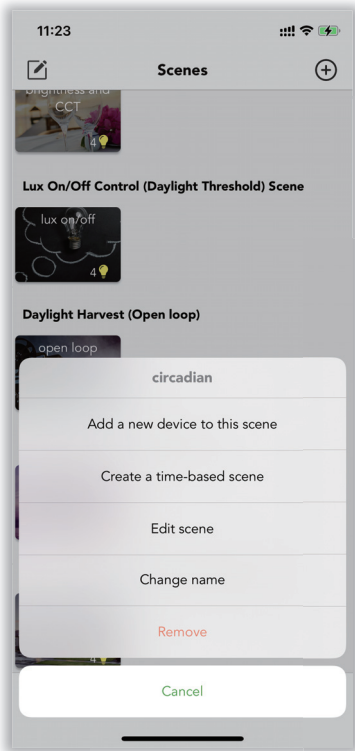
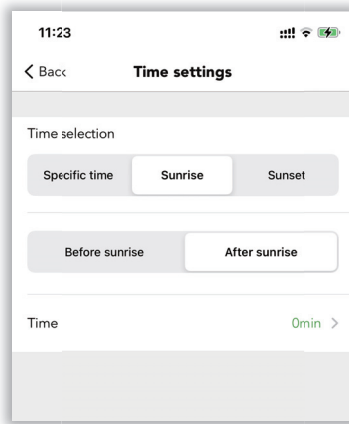
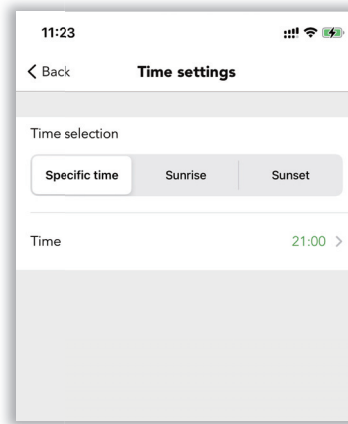

Figure 6.36 Create time-based scene
Figure 6.37 First scene
Figure 6.38 Second scene
Step 4. Long press on the “circadian” scene to access the time-based scene tab (see figure 6.36). Then for the first scene, please select the “circadian” scene, and define the time to sunrise (see figure 6.37). For the second scene, choose the “10% brightness” scene and define the time to 21:00 (see figure 6.38). Save the scene.